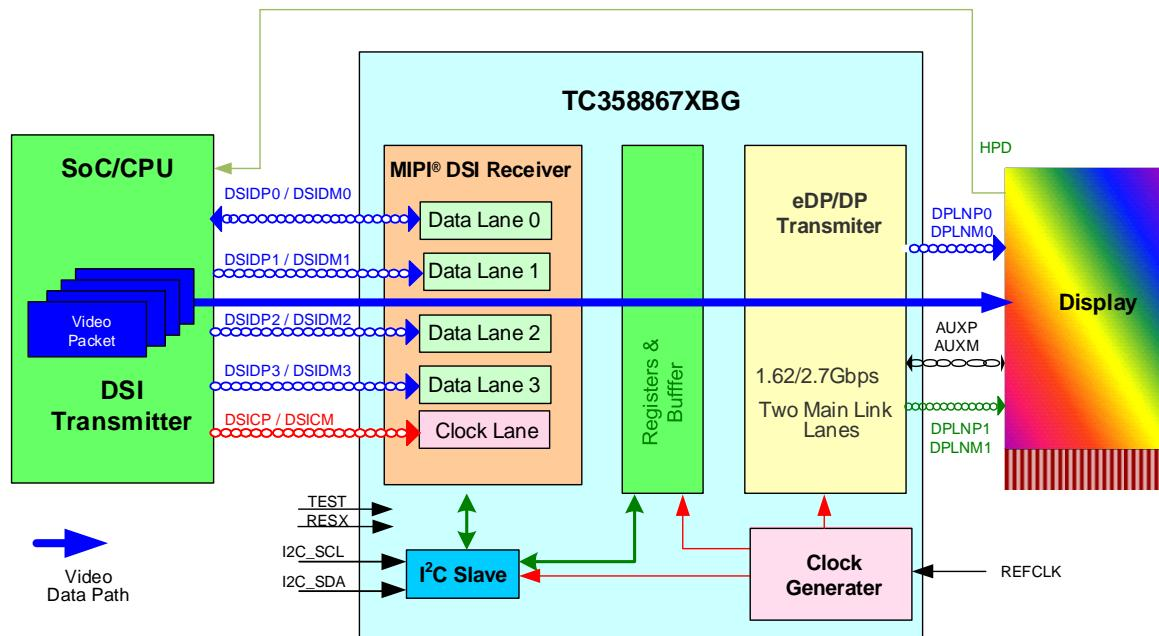

Figure 1.1 System Overview with TC358867XBG in MODE_S21 Configuration
- Mode_S21: A system configuration where TC358867XBG may typically be used is shown in Figure 1.1. In this configuration, the TC358867XBG can support displays with resolution up to WUXGA (1920x1200) at 24bit, 60 fps or WUXGA (1920x1200) at 18bit, 60 fps. Video stream source is from DSI Host.